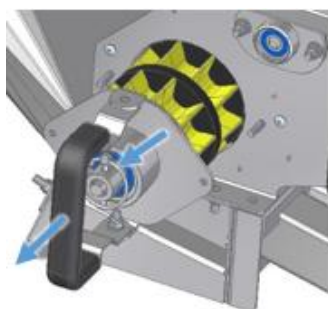

Figure 18
- To be able to take out the seeding shaft and the bearing flange at the same time, the cotter pin between the seeding shaft and the bearing flange must remain inserted (see Figure 18). The folding handle can be used to easily pull the bearing flange along with the seeding shaft out of the metering unit. A slight jiggling motion can facilitate this process.